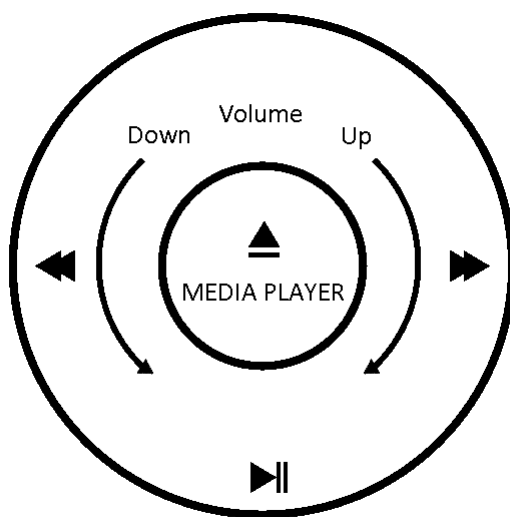

Figure 5. MediaPad
4. The following touches or gestures can be used for media control in a Windows system (see Figure 5).